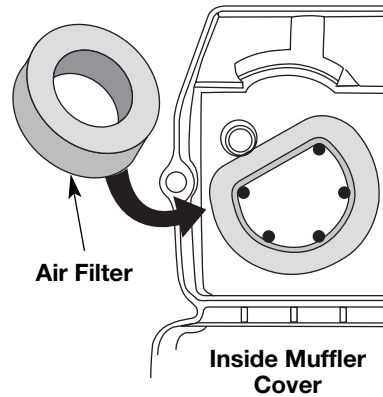

Fig. 24
2. Turn cover over and look inside to locate the air filter. Remove the air filter from inside the air filter/muffler cover (Fig. 24).
6. Replace the air filter inside the air filter/muffler cover (Fig. 24)